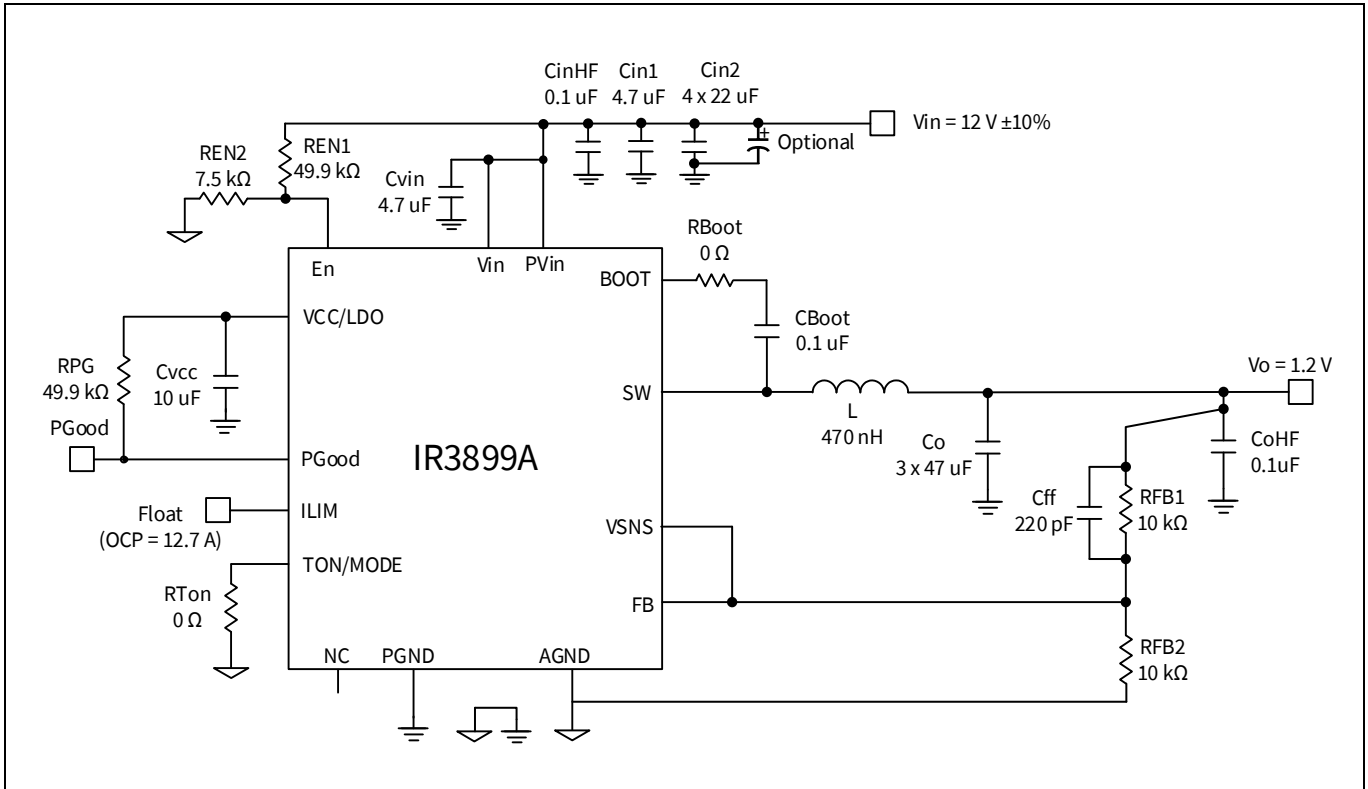

Figure 13 Application diagram of IR3899A. Pvin = 12 V, Vo = 1.2 V, Io = 9 A, fsw = 600 kHz.
In this section, an example is used to demonstrate how to design a buck regulator with the IR3899A. The application circuit is shown in Figure 13. The design specifications are given below:
- To implement the  $V_o$  sensing, the following design guidelines should be followed, as illustrated in Figure 13.